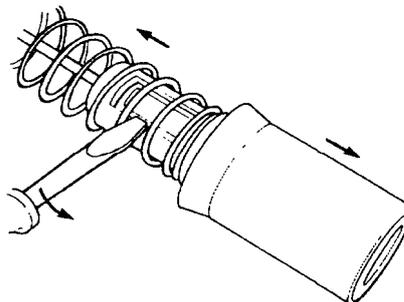

Figure 145 Removing the Piston Seal
- Using a small screwdriver, prise the spring retainer locking prong clear of the piston shoulder and withdraw the piston (Figure 145) and the piston seal.